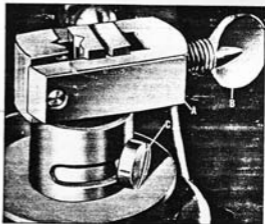

Fig. 13
The normal position of the lower chuck (A) Fig. 13, when cutting from the front of the machine, is with the thumb screw (B) facing to the right. To turn the chuck 90 degrees, loosen screw (C) and turn chuck so thumb screw (B) will face the front and retighten screw (C) Fig. 13. To turn the chuck 180 degrees, remove screw (C), turn chuck so that thumb screw will face the left side, exposing a hole to receive screw (C). When blade is sideways, the table should be turned 90 degrees also, to allow for proper tilting.